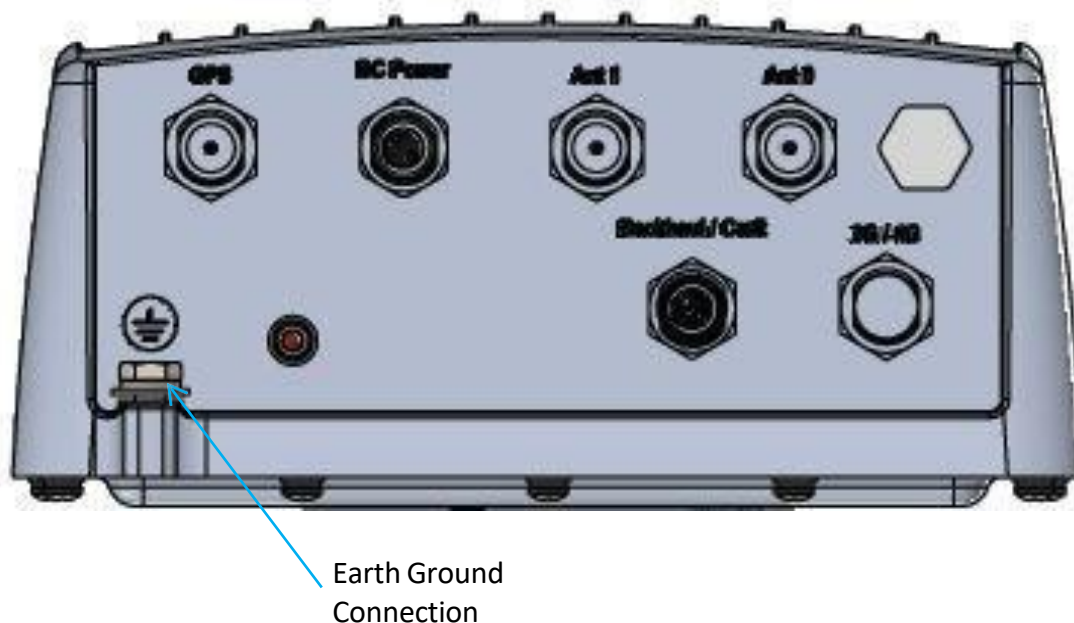

Figure 4: Earth Ground Connection Location
The KONA HazLoc Mega Gateway requires a permanently connected Protective Earth (PE) Ground conductor. The Protective Earth Ground connection is made through a 1/4 x 0.63" on center double hole lug to the ground termination point illustrated in Figure 4. The required ground cable gauge is #10 AWG minimum.